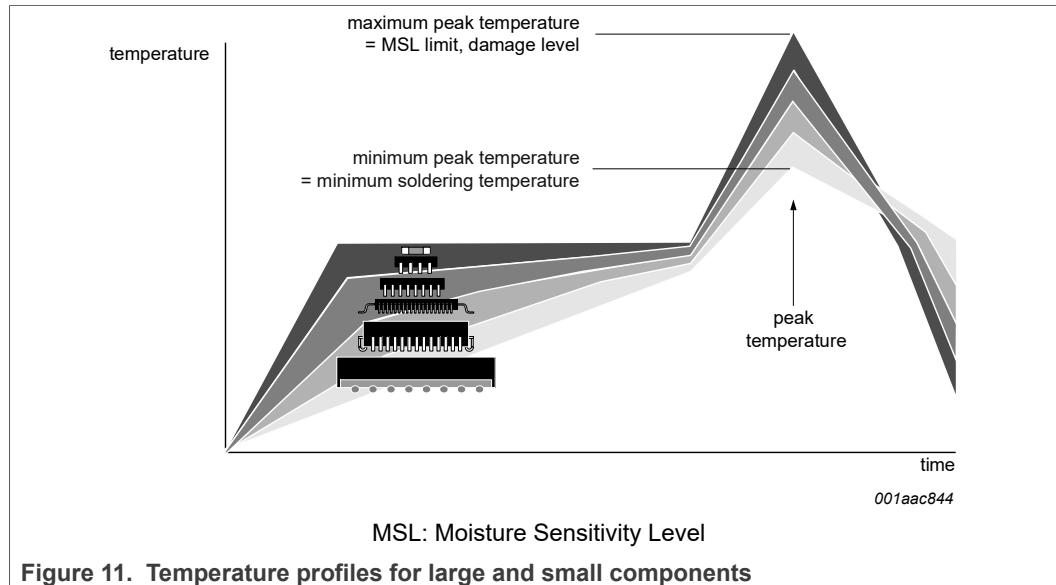

Figure 11. Temperature profiles for large and small components
- Lead-free versus SnPb soldering; note that a lead-free reflow process usually leads to higher minimum peak temperatures (see Figure 11) than a SnPb process, thus reducing the process window
Studies have shown that small packages reach higher temperatures during reflow soldering, see Figure 11.